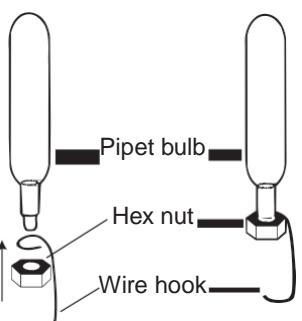

Figure 3.
2. **Cartesian Retrievers.** Place two divers in the same bottle — one that barely floats and one that barely sinks, but with mechanisms or devices attached to them that will enable the floating one to dive down and retrieve the sunken one off the bottom. Use magnets, chewing gum, Velcro, a suction cup, a net, a hook and handle—whatever works! See Figures 3 and 4.